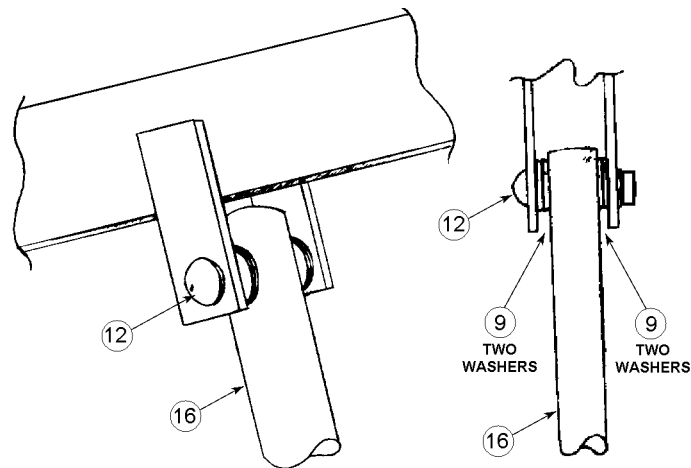

Figure 4
Step #5: Next, connect the cylinder (item 16) to the overhead assembly: Align ram eye with holes in boom clevis plates and insert a greased clevis pin (item 12) with four 5/8" washers (item 13). Tighten collar set screw onto pin. See figure 4.